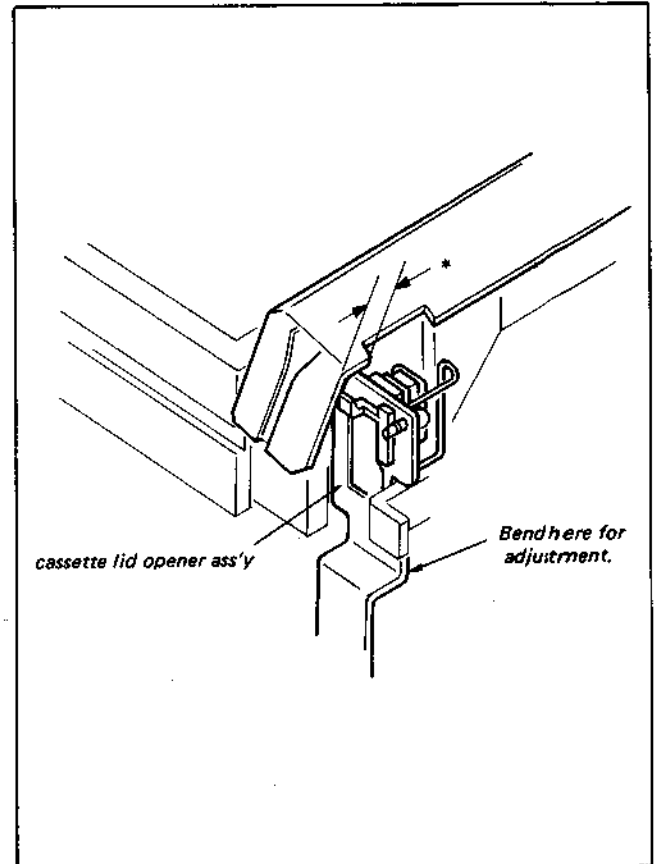

Fig. 3-28. Position adjustment of cassette lid opener metal (2)
- (i) Bend the lower section of the cassette lid opener bracket so that the cassette lid opener bracket positions itself almost at the center of the space marked by asterisk (*) shown in Fig. 3-28, when the cassette is placed on the four position determining posts.